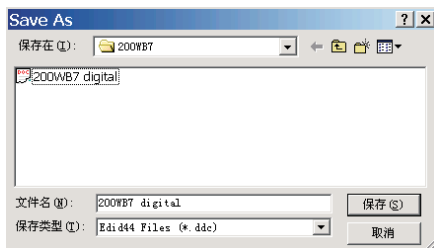

Fig.46
1. Click (Save) icon (or click "file"-> "save as") from the tool bar and give a file name as shown in Fig. 46.